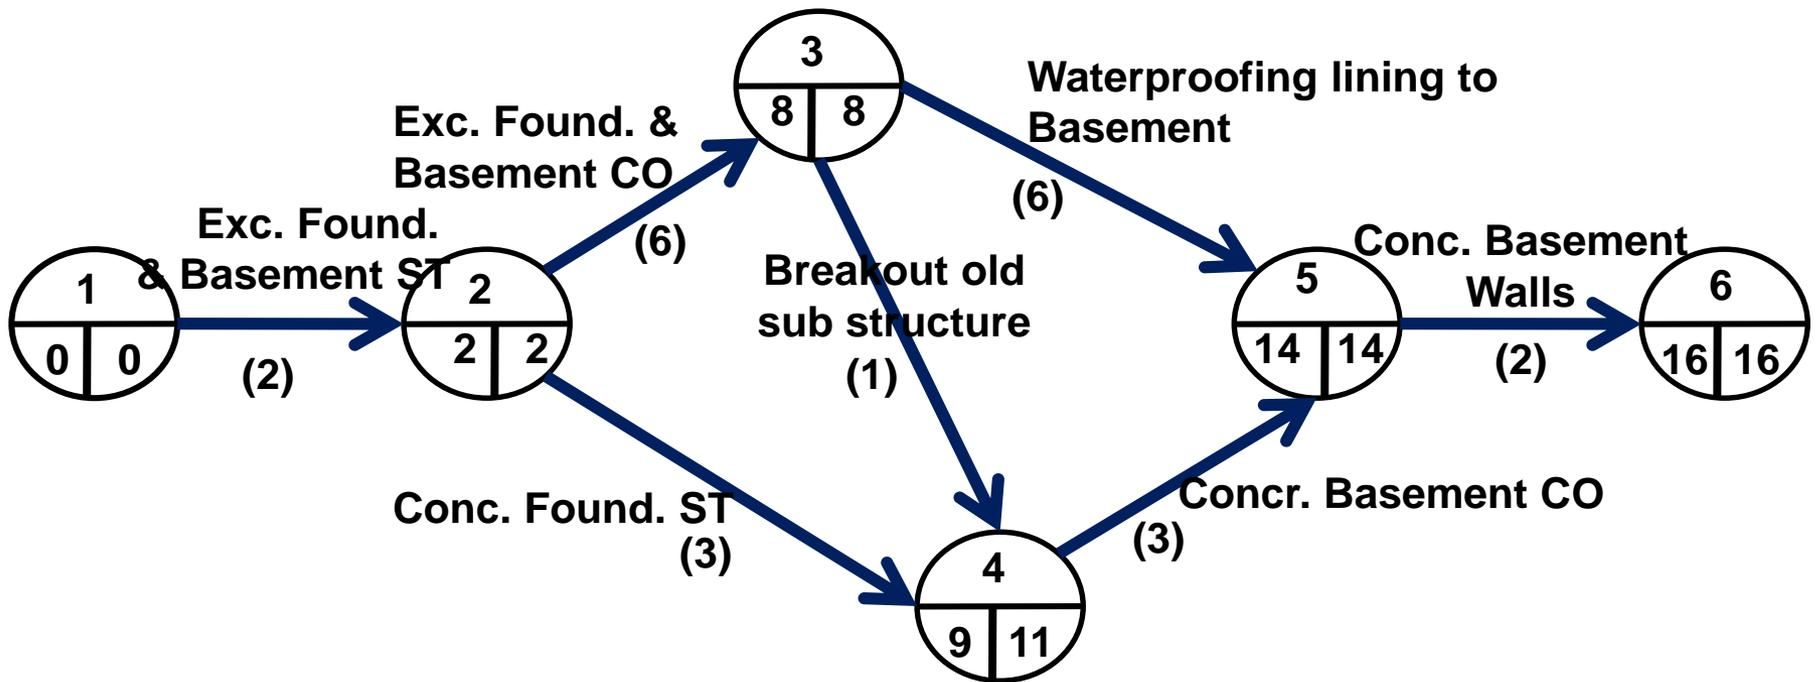

Figure 5.4 – A network showing durations, event numbers and even times
- The upper part of Fig. 5.7 gives the activities for the network shown in Fig. 5.4 ranked in order of early start.